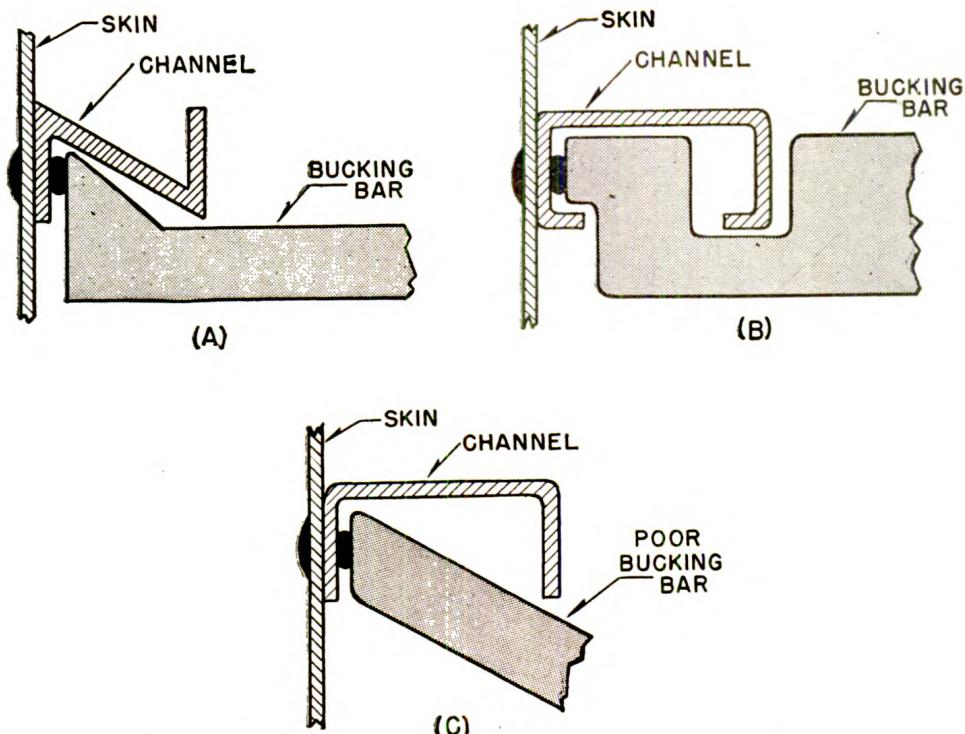

Figure 170.—Correct and incorrect bucking bars.
(B) of figure 170. These bucking bars give much better results than one with a beveled end like that in (C) of figure 170.